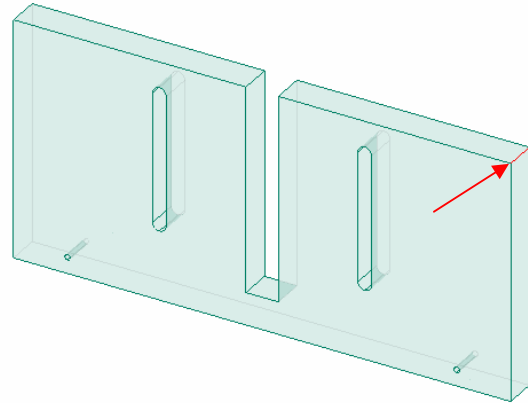

Figure 24. Completed Slots.
50. Figure 24 shows the fence with the slots completed.
51. Use edge selection to select the two top outside edges of the design (right edge shown at red arrow in figure 24).